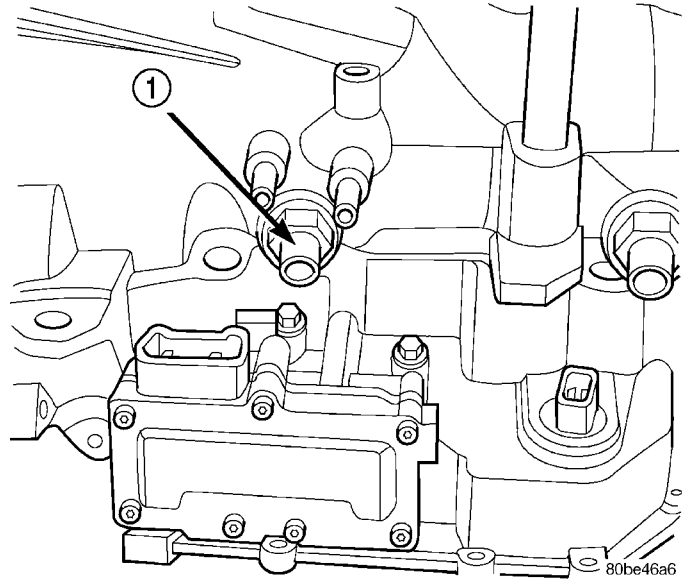

Fig. 289 Input (Turbine) Speed Sensor
- (3) Unscrew and remove input speed sensor (Fig. 289).
- (2) Install and tighten input speed sensor to 27 N·m (20 ft. lbs.) (Fig. 289).